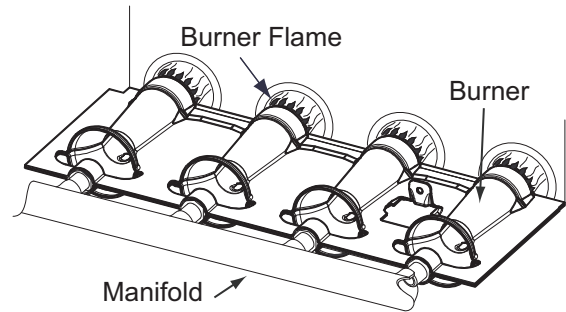

Fig. 5 - Burner Flame Adjustment
6. The burner flames are in good adjustment, See Fig. 5 (by comparison with pictorial sketches or drawings of the main burner flame.)